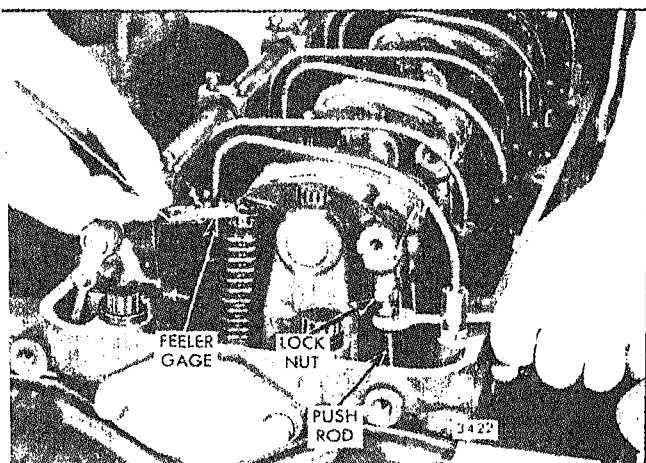

Fig. 1 - Adjusting Valve Clearance (Two-Valve Cylinder Head)
5. Place a .012" feeler gage, J 9708, between the valve stem and the rocker arm (Fig. 1). Adjust the push rod to obtain a smooth pull on the feeler gage.